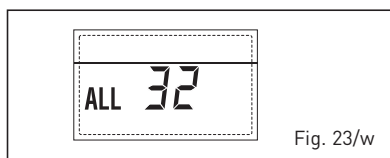

Fig. 23/w
– **RS-485 BOARD COMMUNICATION ERROR IN MODBUS MODE “ALL 33” (fig. 23/k)**